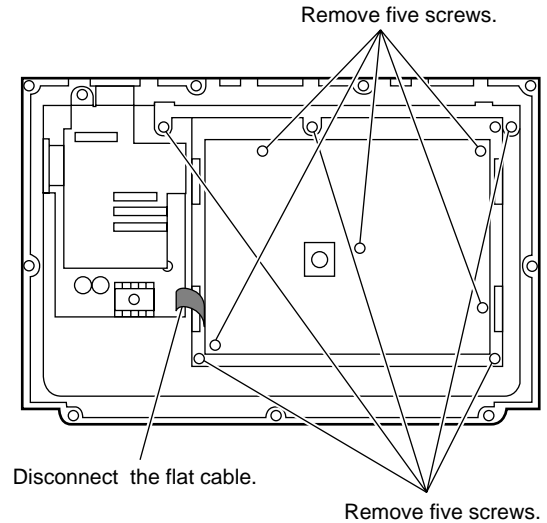

Fig. 2-2
• Referring to Fig. 2-2, remove five screws that secure the Shield Cover and remove the Shield Cover. Disconnect the Flat Cable from CN3 on the Power Board and CN3 on the Main Board. Remove five screws that secure the Main Board and remove the Main Board .